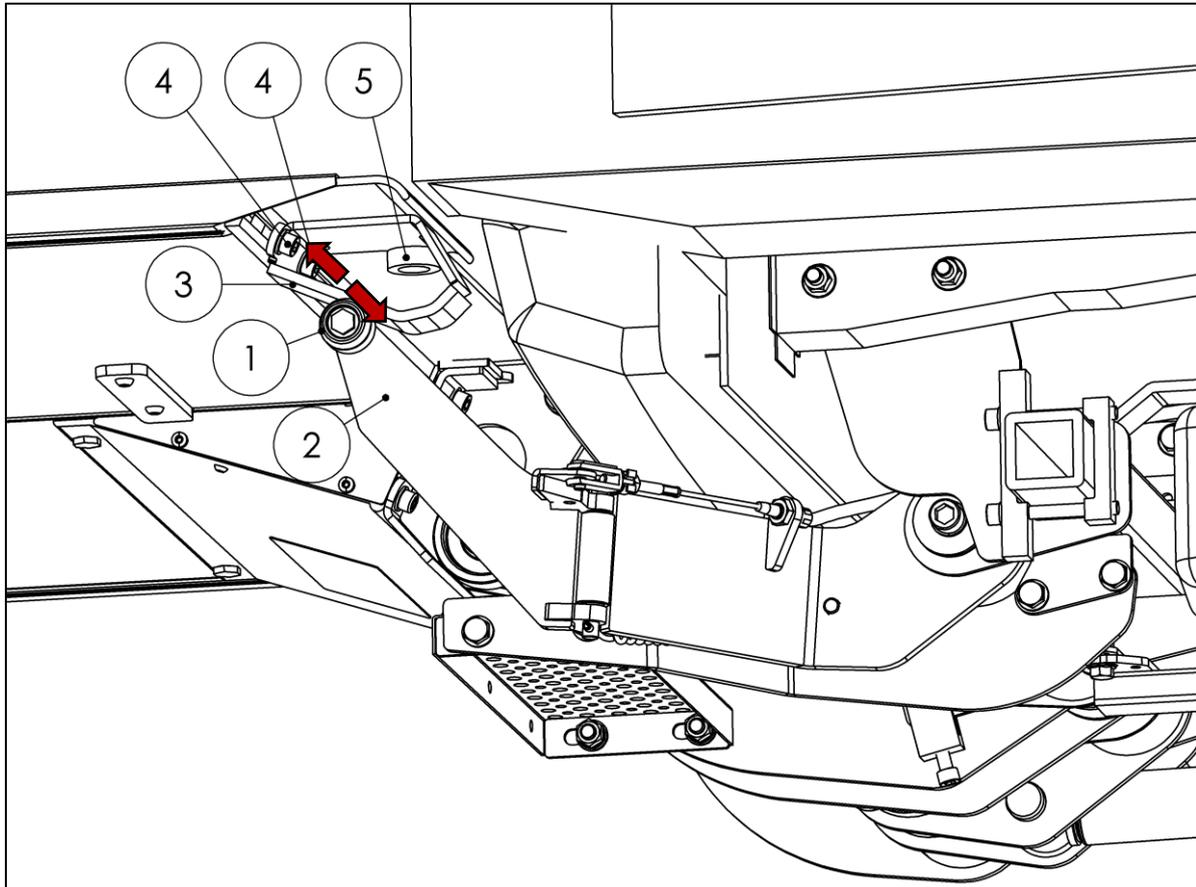

Fig. 80
IMPORTANT: The roller (1) on the support arm (2) must remain against the stop (3) throughout the entire lifting process. If necessary, loosen the stop (3) and shift it slightly by loosening 2 cheese-head screws (4). At the same time, the stop (3) must not be shifted too far. When the platform is folded over, the plastic spacer (5) must hold the platform in place (see Fig. 80).